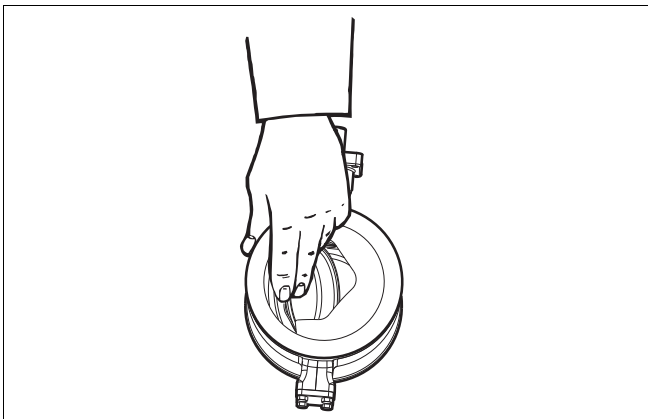

Fig. 27 Slipping the seat into the body
- Place the seat package into the body as shown in Figs. 27 and 28.